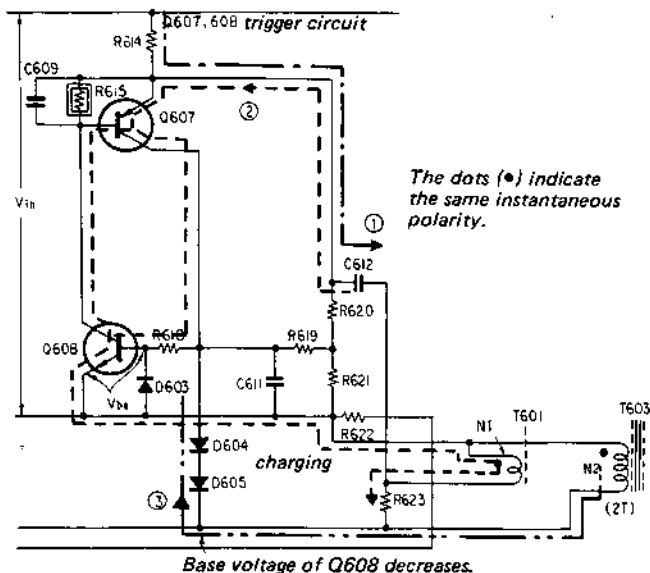

Fig. 12
5. Inverter Trigger Circuit (See Fig. 12)